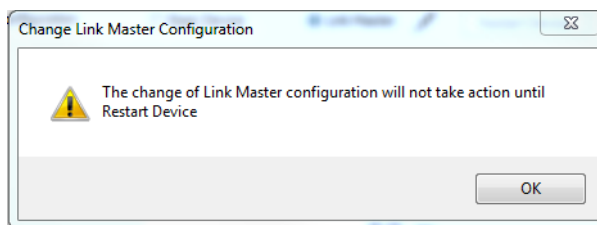

Figure 176 – Change Link Master Configuration
- b. Clicking the **Link Master** radio button and the message in Figure 176 appears.